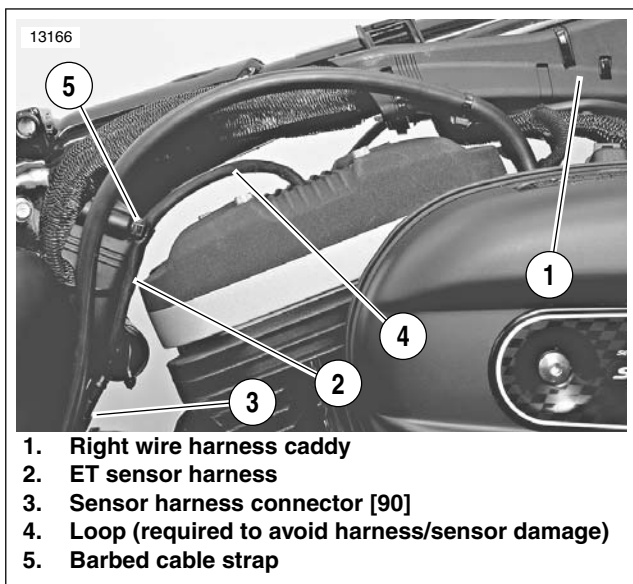

Figure 4-49. Engine Temperature Sensor Harness
9. Correct step 5 of 4.12 ENGINE TEMPERATURE (ET) SENSOR, REMOVAL on page 4-39 to read:
“See Figure 4-49. ET sensor connector [90] (3) is located on right side of H-Bracket. Unplug connector by pulling external latch outward and use rocking motion to separate connector halves.”
10. Correct step 6 of 4.12 ENGINE TEMPERATURE (ET) SENSOR, REMOVAL on page 4-39 to read:
11. Correct step 4 of 4.12 ENGINE TEMPERATURE (ET) SENSOR, INSTALLATION on page 4-40 to read:
“See Figure 4-49. Use a barbed cable strap (5) to secure sensor harness (2) to H-bracket. Position cable strap so harness forms a loop (4) between sensor and H-bracket.”
12. Correct the NOTE following step 4 of 4.12 ENGINE TEMPERATURE (ET) SENSOR, INSTALLATION on page 4-40 to read:
“See Figure 4-49. Make sure there is a loop (4) in sensor harness in front of H-Bracket. If harness is pulled tight between H-Bracket and sensor, it can be damaged during vehicle operation which could disable the sensor.”
16. Replace Figure 4-49 on page 4-39 with Figure 4-49 below.